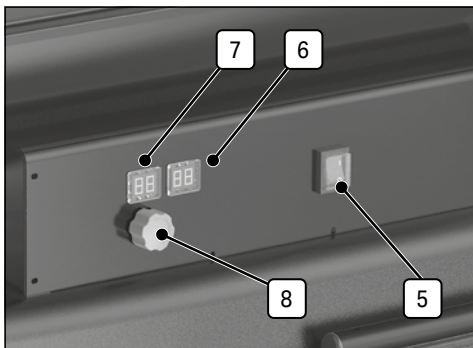

Fig. 4
7.4 Switching the Heater ON (Fig.4)